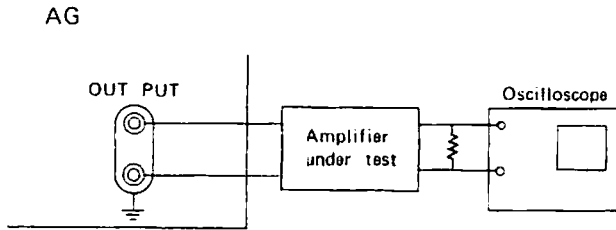

Fig. 7
- 1) Connect AG an amplifier to be tested and an oscilloscope as shown in Fig. 7.